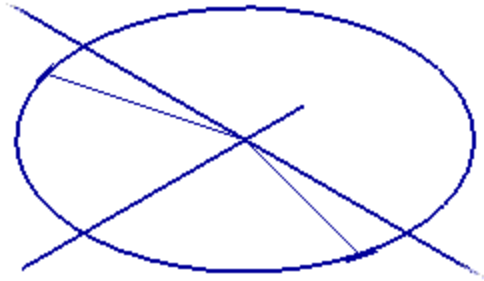

Figure 7: Derived sketch for strap part.
9. Click OK. The part should match the one shown in Figure 7.